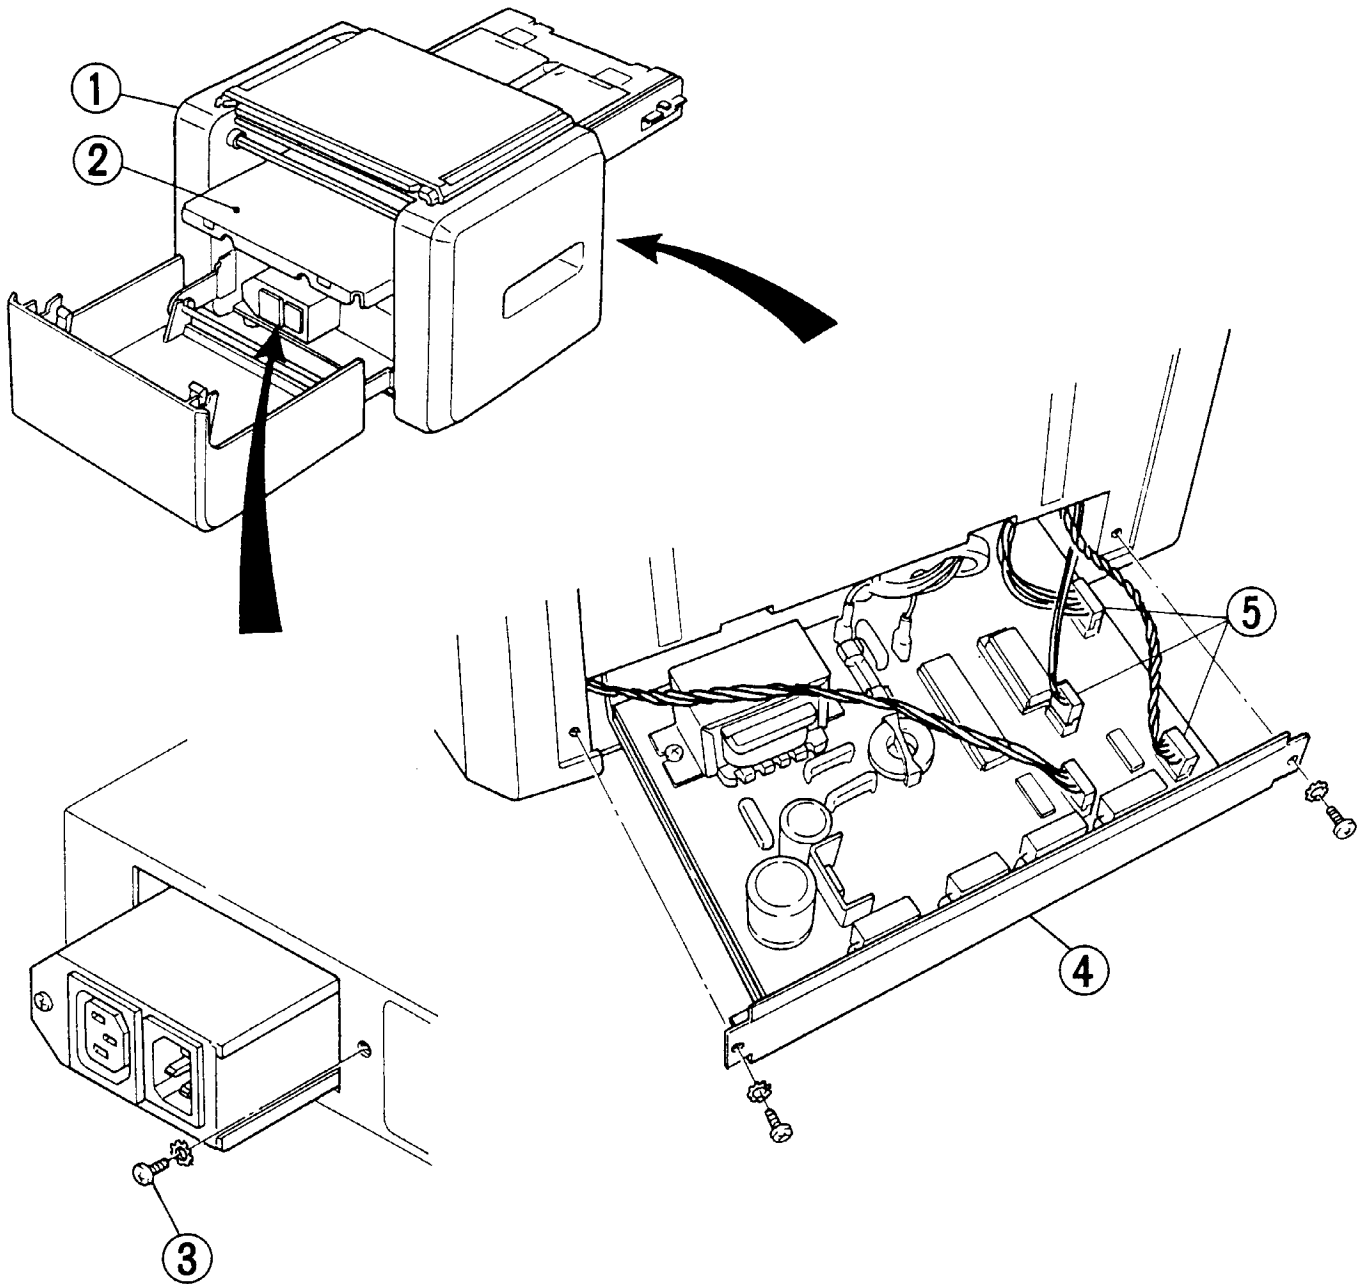

FIGURE 4-4. ELECTRONICS ASSEMBLY REMOVAL
2. Raise paper elevator (See Figure 4-4).
3. Remove 1 screw shown as "3" in Figure 4-4.